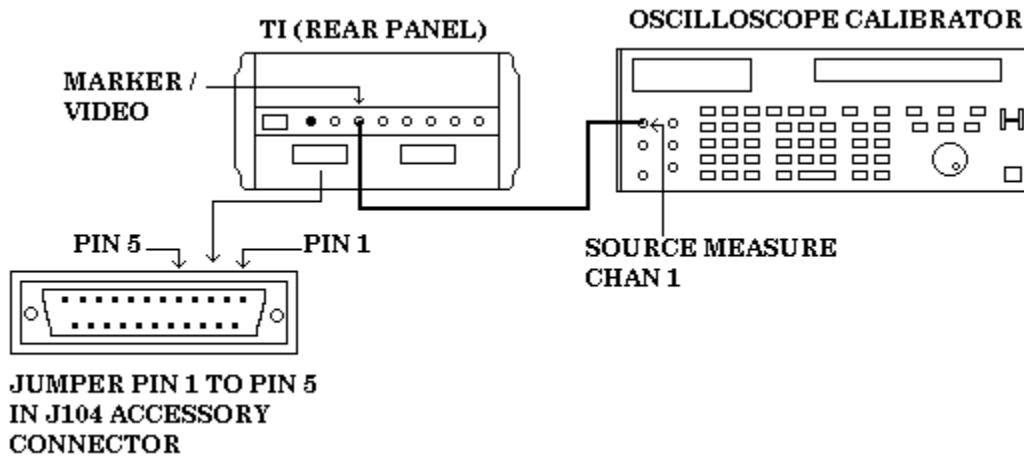

Figure 5. Sweep time setup.
- (1) Press TI **BLUE SHIFT** then **RESET** keys.
- (2) Connect equipment as shown in figure 5 below.